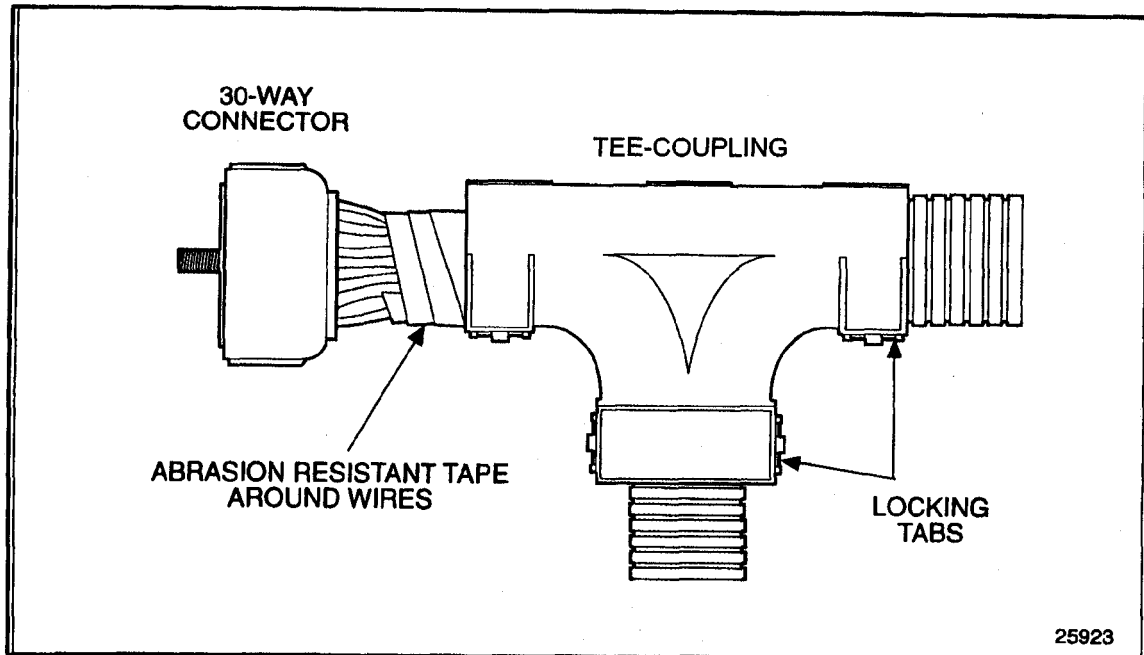

Figure 8-26 Improved Engine Sensor Harness with Abrasion-resistant Tape
To eliminate this concern, engine sensor harness 8929468 has been improved. The improved harness is identical to the former harness, except that abrasion-resistant tape is now wrapped around the short length of 30-way connector wires where they enter the tee-coupling. See Figure 8-26. This reduces the potential for wire damage caused by abrasion.
1. With the harness on or off the engine, open the plastic tee-coupling by disengaging the locking tabs (two on each side). See Figure 8-26. Remove the coupling.
2. Apply two or three wraps of abrasion-resistant tape such as Polyken 266 Black Tape*, or equivalent, around the 30-way connector wires where the tee-coupling clamps onto them. See Figure 8-26. This reduces the potential for wire damage caused by abrasion.